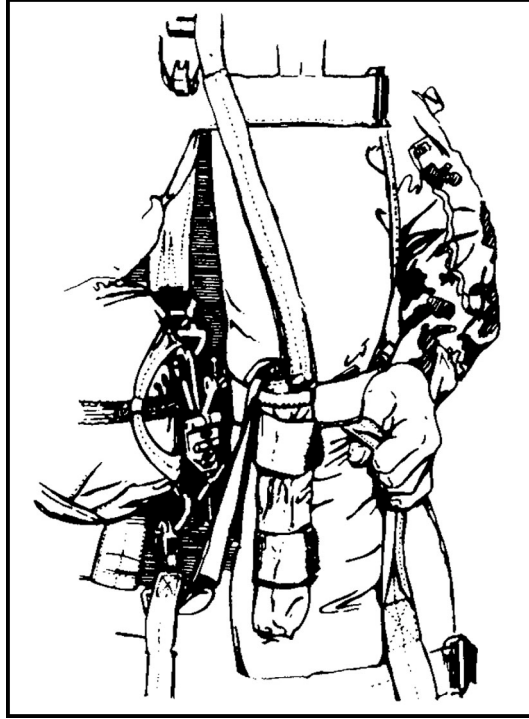

Figure 12-56. AT4JP secured.
- d. Secure the AT4JP by attaching the quick-release assembly to the left D-ring outside of the H-harness snap hook (Figure 12-56). Ensure that the quick-release safety gate is closed and the quick-release snap is locked to the D-ring, and that the quick-release assembly release attachment sequence is inboard to outboard as follows: reserve, H-harness, and AT4JP quick-release snap.